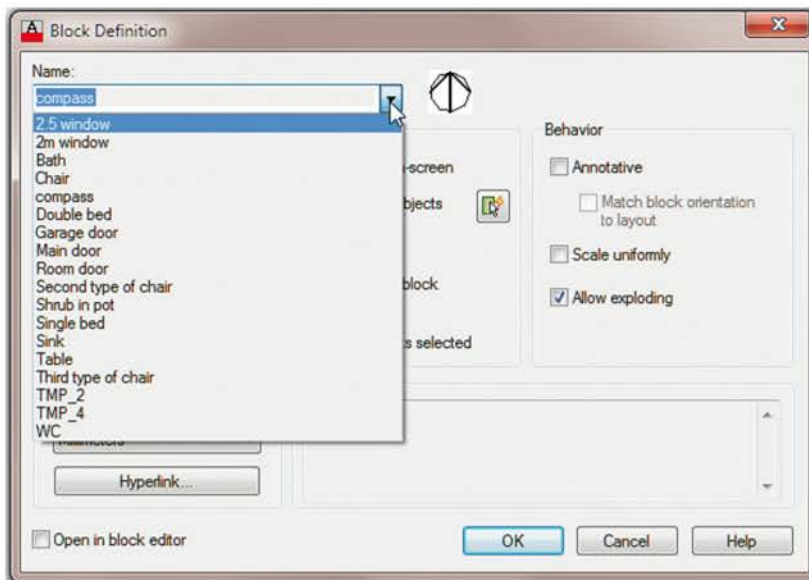

Fig. 13.4 The popup list in the Name field of the Block Definition dialog
3. Repeat items 1 and 2 to make blocks of all the other symbols in the drawing.
4. Open the **Block Definition** dialog again and *click* the arrow on the right of the Name field. Blocks saved in the drawing are listed (Fig. 13.4).